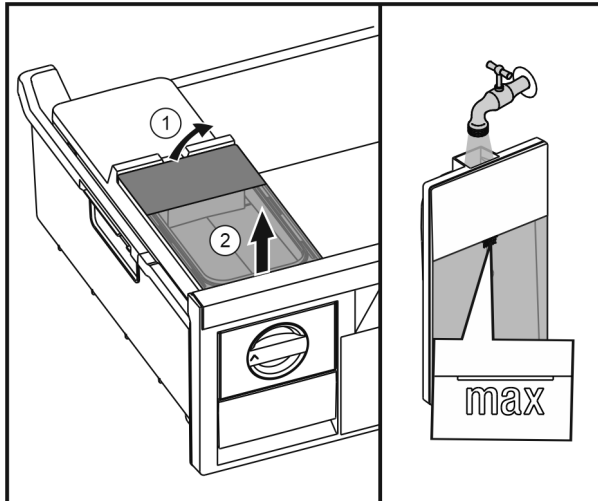

Fig. 38
- Lift up the water tank at the rear Fig. 38 (1) and remove to the top Fig. 38 (2).